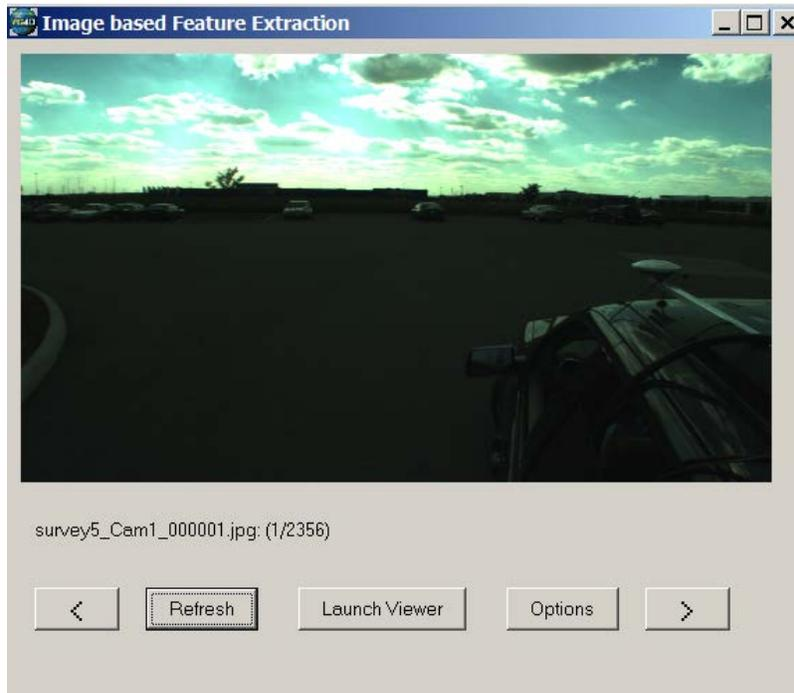

Figure 87: Imported Image for Feature Extraction
- A dialog box (Figure 87) opens showing the current image with its image ID and total number of images in entire folder